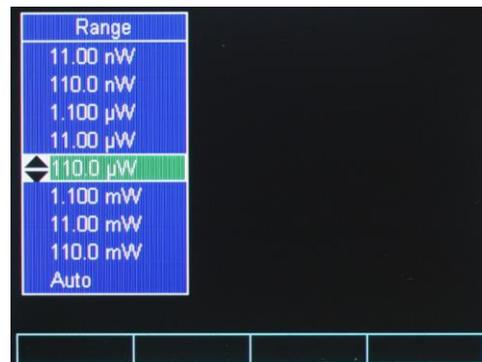

Figure 32 This screen is displayed after pressing the Config soft key
- The other option is to press the right-most Soft key, which is labeled Config. This action displays the Range Configuration screen (Figure 32). Here the user can select a certain range or even Auto Range with the Navigation/Enter keys. Once a range is selected the instrument returns to the main screen. While in Range Configuration screen, the user may cancel the selection by hitting the ESC key.